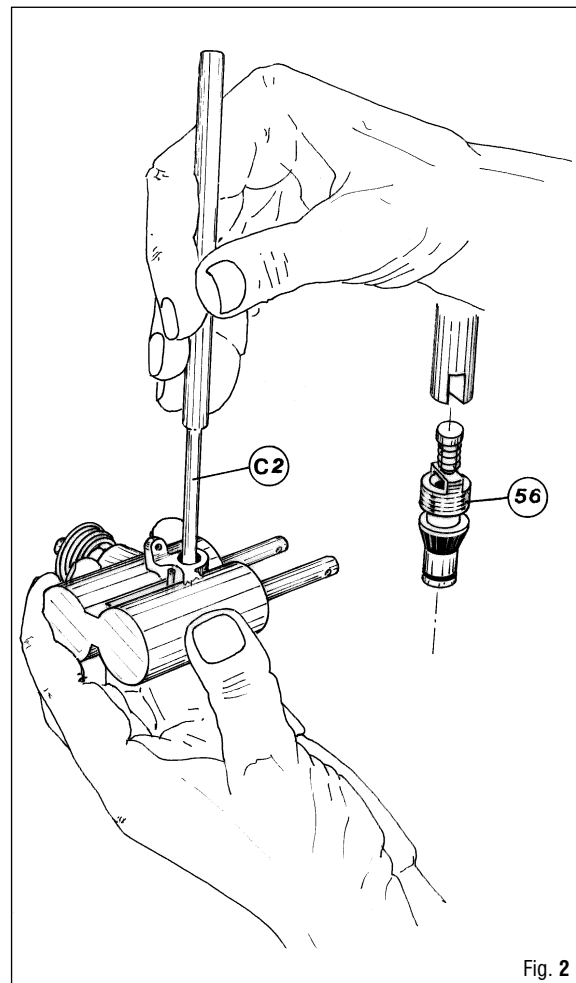

Fig. 2
11. Use the special tool C-2 to fully back off the discharge valve (56) (See Fig. 2).
6. Use the special tool C-2 to fully lock down the new discharge valve (56) (See Fig. 2).